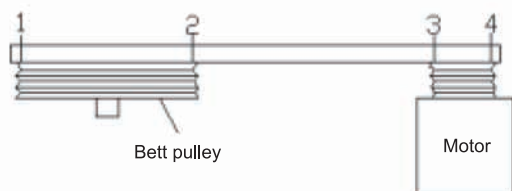

Figure 13
- (8) Measure to see that the top and bottom of the motor base are the same distance out from the casing of the unit. This should ensure that the sheaves are properly aligned as they have been pre-set at the factory. As a final check, lay a straight edge from sheave to sheave. There should be four point contact. (See Figure 13.) Adjust the position of the motor sheave as necessary.